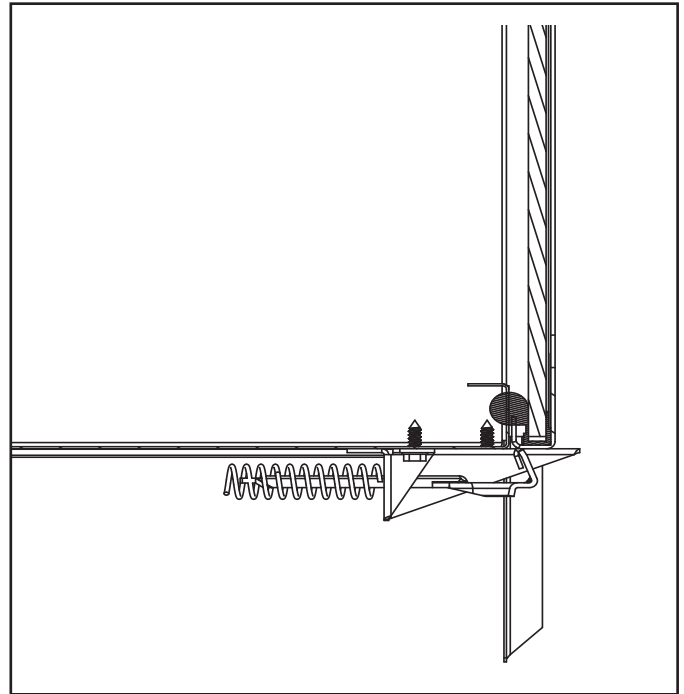

Figure 11.1 Fixed Glass Assembly
- The glass assembly fastens to the fireplace in four places. Four of the fastening mechanisms are spring-loaded glass latches. An example of the glass latch is shown in Figure 11.1.